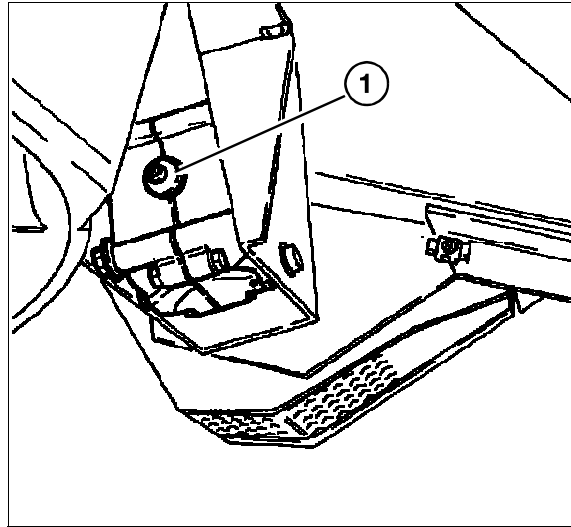

Fig. 33
25.) Chaff Spreader Drive (if fitted) - Fig. 33